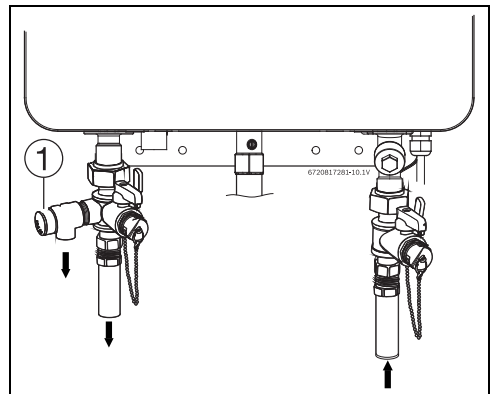

Fig. 14 Plumbing Connections (with shutoff valves) and Pressure Relief Valve
- ▶ Full port shutoff valves should be installed on both the cold water supply and hot water outlet lines to facilitate servicing the heater (see fig. 14).
A pressure relief valve must be installed at the time of installation. No valve is to be placed between the PRV and the heater. No reducing coupling or other restriction may be installed in the discharge line. The discharge line must be a minimum of 4" above a drain and installed such that it allows complete drainage of both the PRV and the line. The discharge line must be placed where it will not cause any damage. The location of the PRV must be readily accessible for servicing or replacement, and be mounted as close to the water heater as possible. See fig. 14. To install the PRV, a suitable fitting connected to an extension on a "T" fitting can be connected to the hot water line.